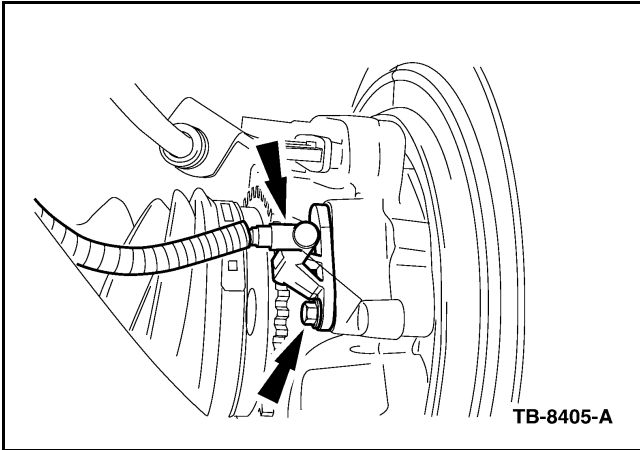

Figure 2 - Article 05-25-8
2. Remove the bolt and disconnect the wheel speed sensor (Figure 2). To install, tighten to 71 lb-in (8 N•m).